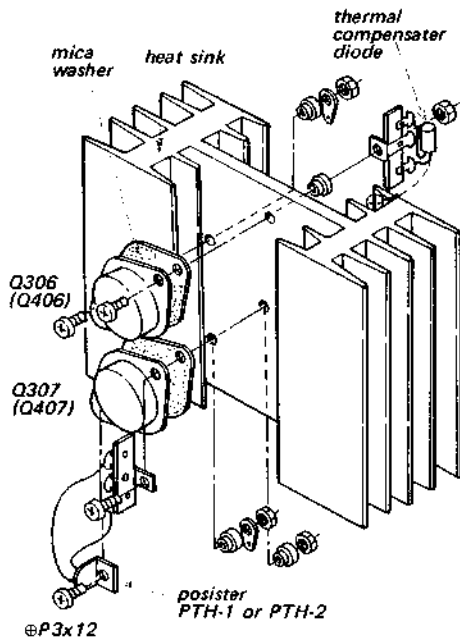

Fig. 2-7 Power transistor replacement
4. Remove the two screws (\emptyset P 3 \times 12) and nuts securing the power transistor to the heat sink, then install a new transistor. See Fig. 2-7.